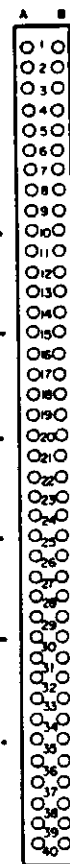

FIGURE 4 - PCB CONNECTOR PIN NUMBERING
3.1.2 Each connector has an "A" and "B" column of forty pins each. See Figure 4. The connector numbers shown in Figure 4 are not imprinted on the actual connectors, but are shown here to help orient the installer.
3.1.3 The columns of connector pins are marked in increments of five pins as shown in Figure 4 to reduce errors in pin counting.